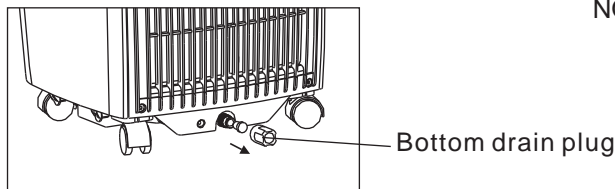

Fig.23
- When the water level of the bottom tray reaches a predetermined level, the unit beeps 8 times, the digital display area shows "P1". At this time the air conditioning/dehumidification process will immediately stop. However, the fan motor will continue to operate(this is normal). Carefully move the unit to a drain location, remove the bottom drain plug and let the water drain away (Fig.23). Re-install the bottom drain plug and Restart the machine until the "P1" symbol disappears. If the error repeats, call for service.